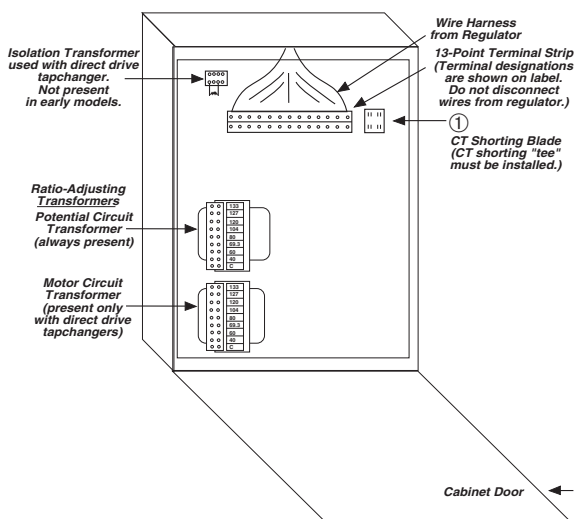

Figure 8 Pennsylvania/McGraw-Edison Control
3. Install the CT shorting "tee" (Item #1, Figure 8).
7. Remove all connections except those items on the rear panel that are shown in Figure 8.